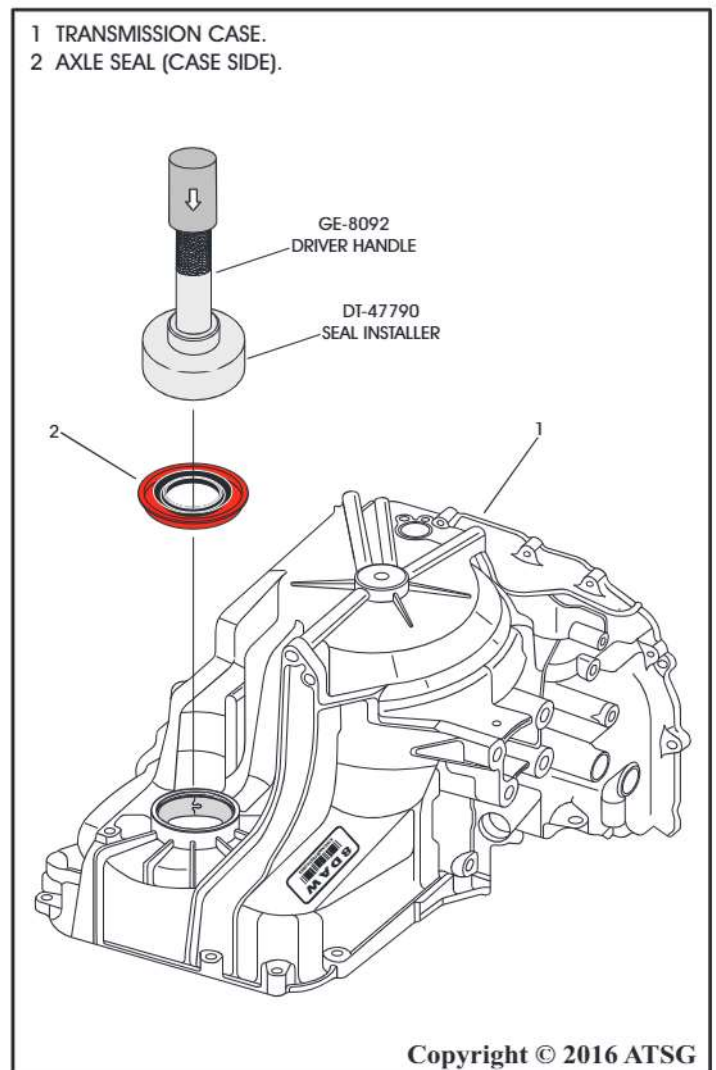

Figure 144
15. Install a new axle seal into the transmission case using the DT-47790 seal installer with the GE-8092 driver handle as shown in Figure 144.